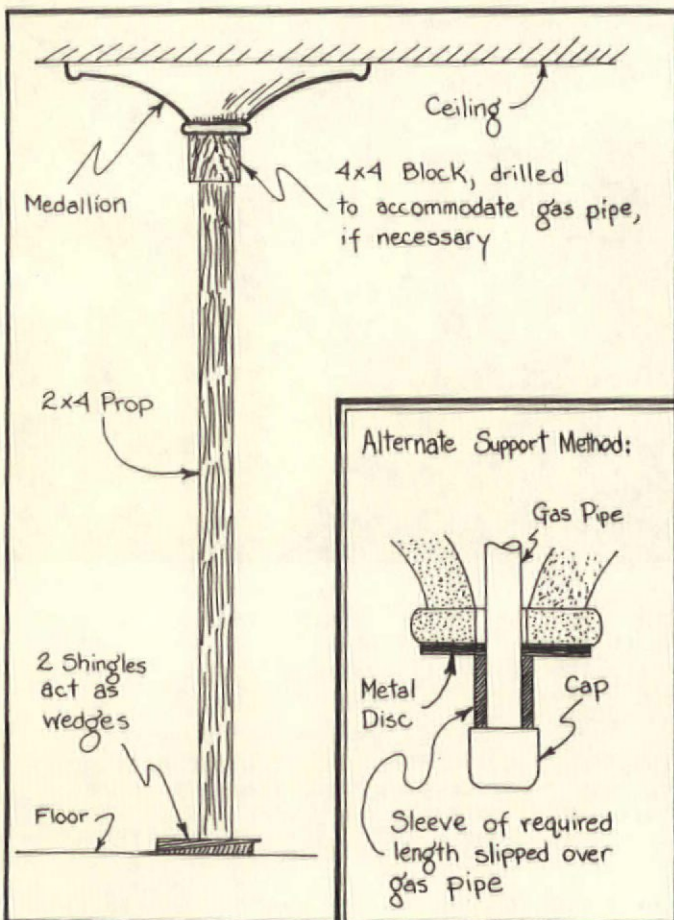

Fig. 5--Methods for holding medallion in place while gluing back to ceiling.
**R**EPLACE THE MEDALLION, using glue or mastic liberally, affixing it as shown in Fig. 5. I usually sink a few screws through the thicker parts of the medallion, too, counter-sinking and "stopping" them later. The multi-part medallions will require screws in the outer sections, particularly.